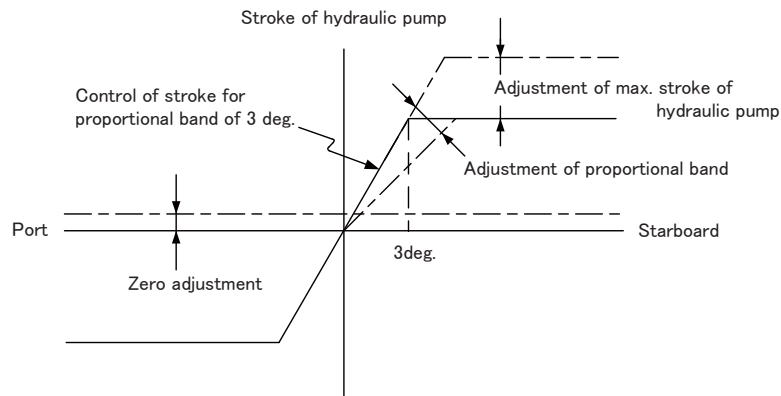

Figure 2.2
b. Adjustments of maximum stroke of pump.....See Figure 2.2.
c. Adjustment of proportional band.....See Figure 2.2.